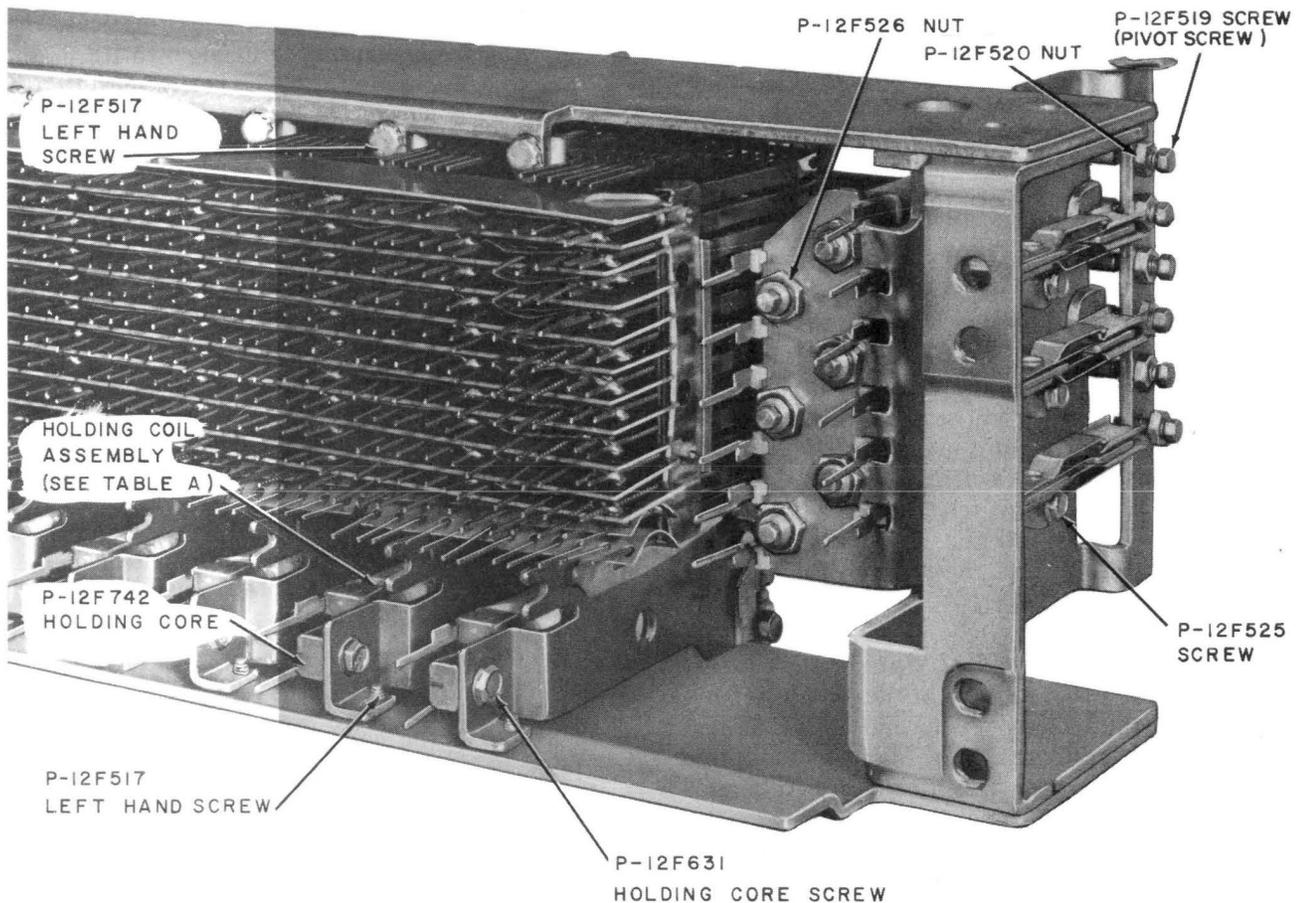

Fig. 3—Partial Rear View of Switch
E. Holding Core and/or Coil Assembly (Fig. 3)